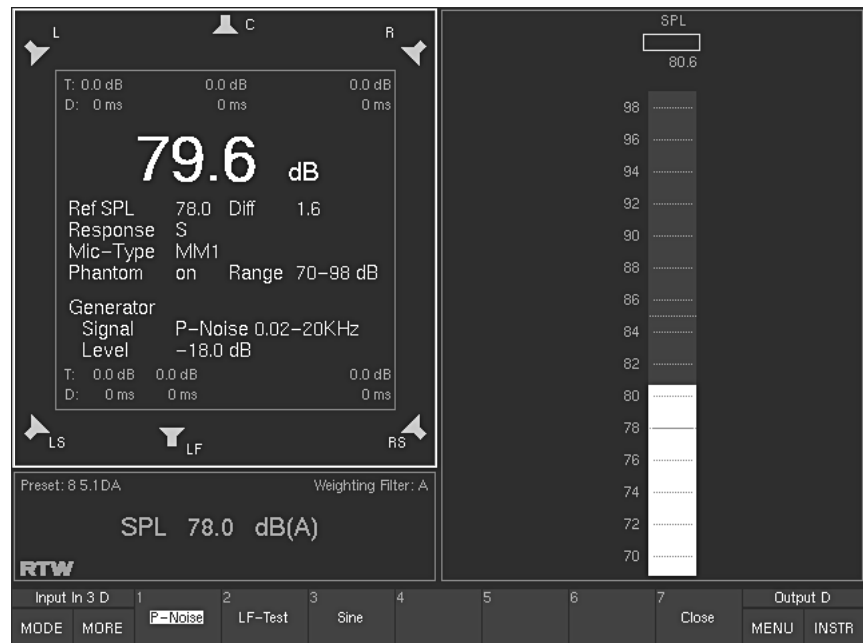

Fig. 3-18: Screen display after selecting "Signal Select" in the CAL instrument
(Button/key 1 – first level, see Fig. 3-18)
(Button/key 2 – first level, see Fig. 3-18)